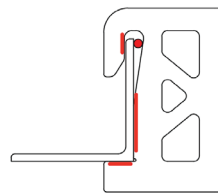

Figure 7: Shim Rod Standard
- F** The lower end of the angle's vertical leg (heel) must rest against the back of the Bracket slot and the upper end of the leg (toe) should be in direct contact with the Bracket claw. To temporarily brace a shelf angle so that it will not dislodge from the FAST Bracket during construction (by vertical impact, before placement of the veneer), FERRO provides a hot dip galvanized steel Pin (FAST Shim Rod) that is driven between the the backside of the vertical leg of the angle and the Bracket claw. Install FERRO Shim Rods to ensure that the vertical leg of angle is in contact with (back of) Bracket claw/(front of) Bracket slot. The FERRO Shim Rod locks the shelf angle in place during construction. One FERRO Shim Rod is used for each length of angle, e.g., for an angle being held by four Brackets, the one shim rod can go in any of the Brackets holding that angle. Care must be taken to ensure that the shelf angle properly contacts and bears against the Bracket so the angle will not rotate or drop under the weight of the veneer. (Figure 7, 8) The FAST Shim Rod is hot dipped galvanized and can be left in-place if desired.